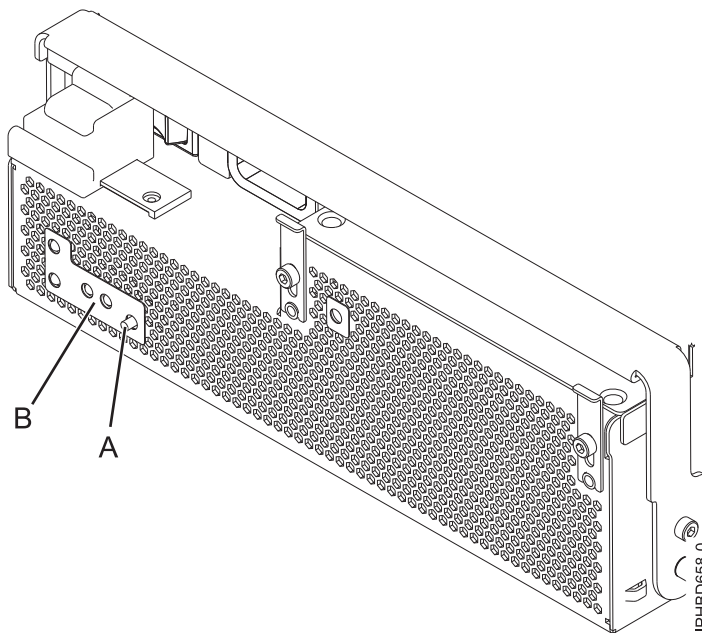
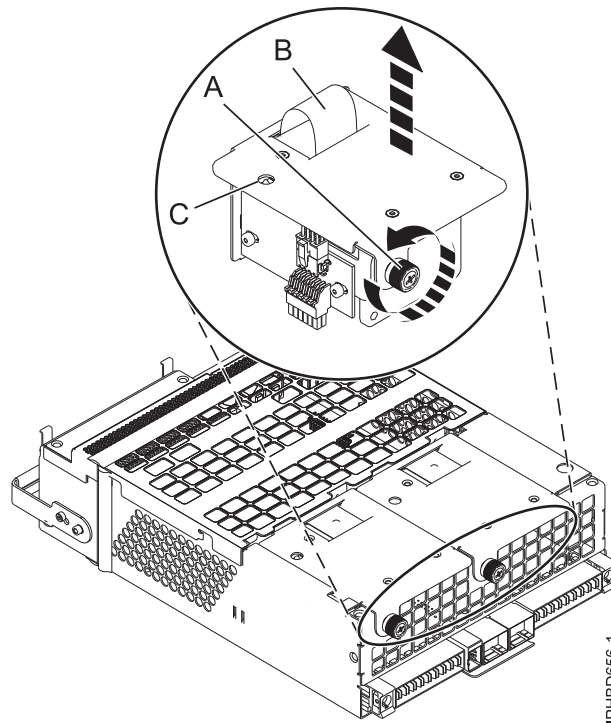

Figure 59. Fan fault LED and fan identify button
Figure 60. Removing a fan
Note: If a fan fails, the amber fan fault LED (**B**) on the front of the Offline Converter Assembly (OCA), as shown in Figure 59, is on solid.
- a. To identify the failing fan, press the fan identify button (A), as shown in Figure 59 on page 74. An amber left or right fan-fault LED (C) on solid, as shown in Figure 60, indicates the faulty fan.
- b. Loosen the thumbscrew (A) that holds the fan in the power-supply assembly, as shown in Figure 60.
- c. Use the recessed fan handle (B) to lift the fan from the power-supply assembly, as shown in Figure 60.